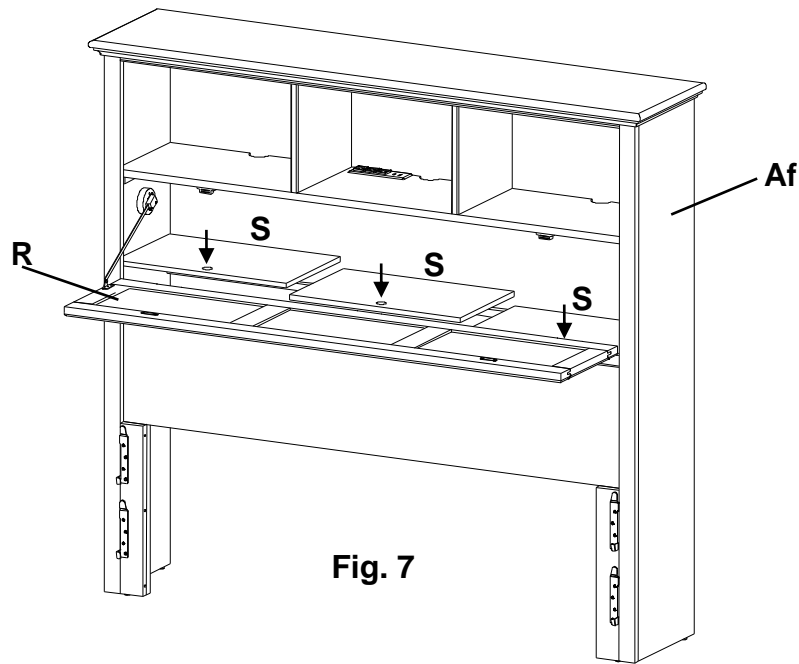

Fig. 7
7. Unwrap the False Bottoms (S) and place them on top of the rails in the Headboard Assembly (Af). Make sure the finger holes face forward as shown in Figure 7. After you have placed your electronics inside the cubbies, use the Wire Clips (ZS) on the underside of the cubbies to secure the wires. Close the door tightly making sure the magnetic catches and plates securely touch.